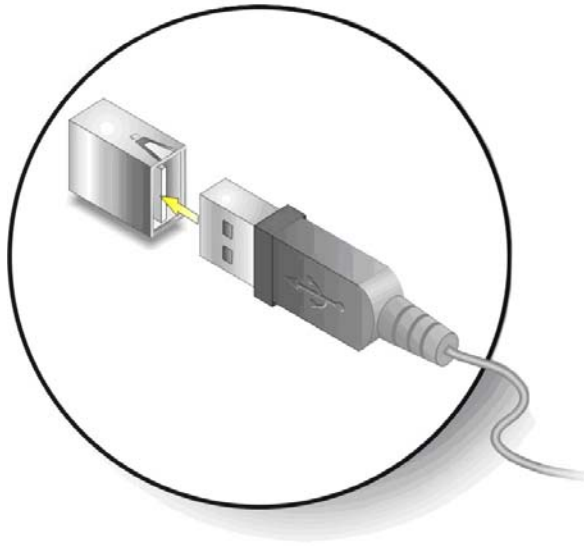

Figure 5-20: USB Device Connection
Step 2: Align the connectors. Align the USB device connector with one of the connectors on the 3308290. See Figure 5-20.